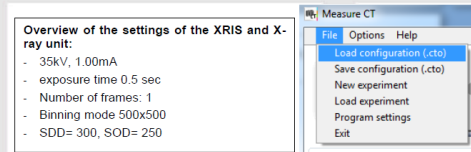
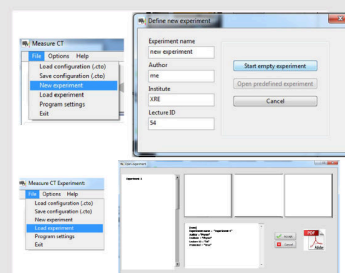

Fig. 4: The settings for this
Fig. 5: How to create a new or open an existing experiment
- Adjust the XRIS settings and X-ray unit settings according to Fig. 4 or load the configuration from the predefined CTO file 'Experiment 6' (see Fig. 5).
- Start a new experiment, give it a unique name and fill in your details (Fig. 5). Alternatively it is also possible to load this experiment with pre-recorded images and open this manual. The correct configuration will be loaded automatically as well but the functionalities of the software will be limited to avoid overwriting the existing data.